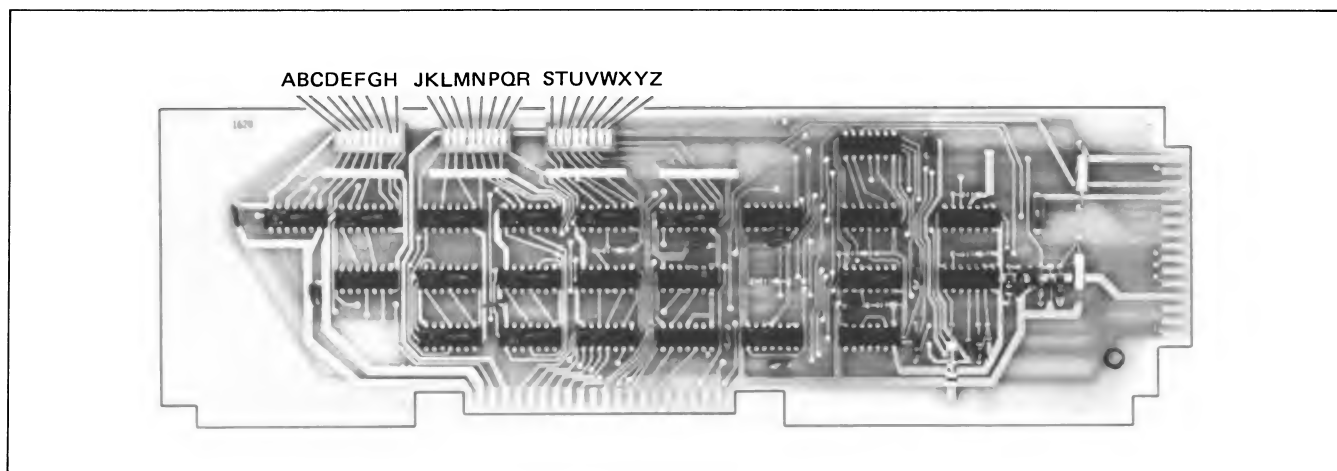

Figure 7-17. Keyboard Interface PCA Strapping Options
3. ( ) Using figure 7-17, 7-18, 7-19, or 7-20 (as applicable) and table 7-4, 7-5, 7-6, 7-7 or 7-8 (as applicable), select the desired operating functions, and set the switches to the appropriate positions. (More information on configuration is given in Section V.)